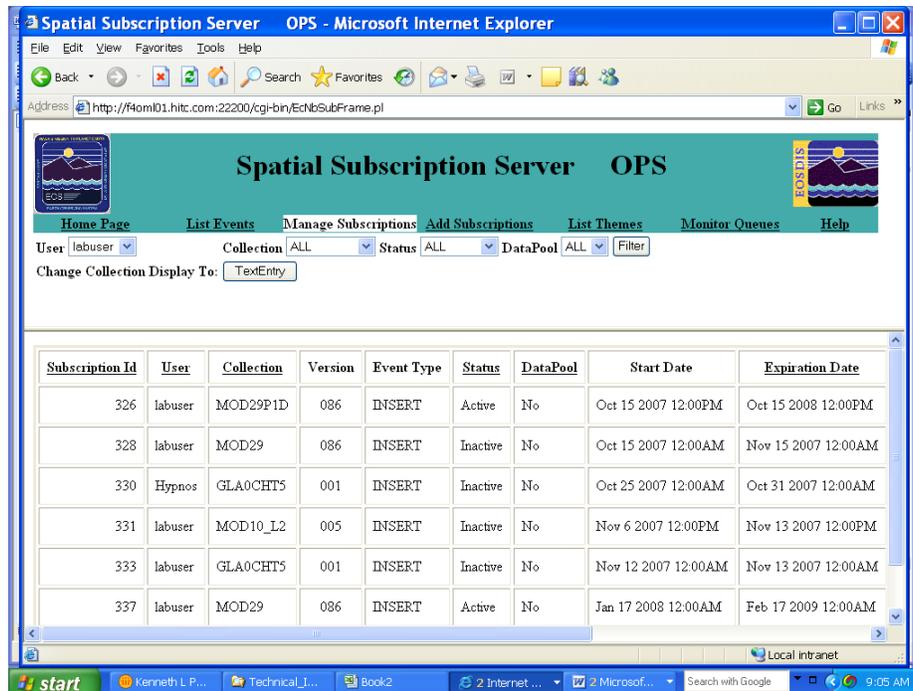

Figure 16.1-3. Manage Subscription
- The **Manage Subscriptions** page is displayed (see Figure 16.1-3) with a table listing all subscriptions in the NBSRV database.